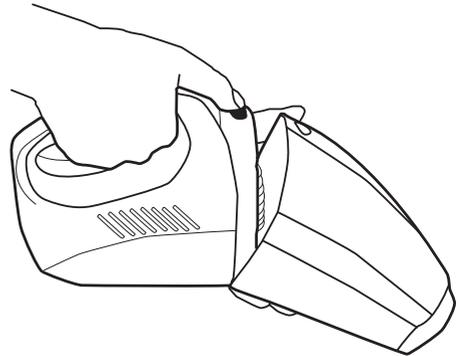

Figure 3
2. Press the dust container lock button to release the dust container from the vacuum. (See Figure 3)